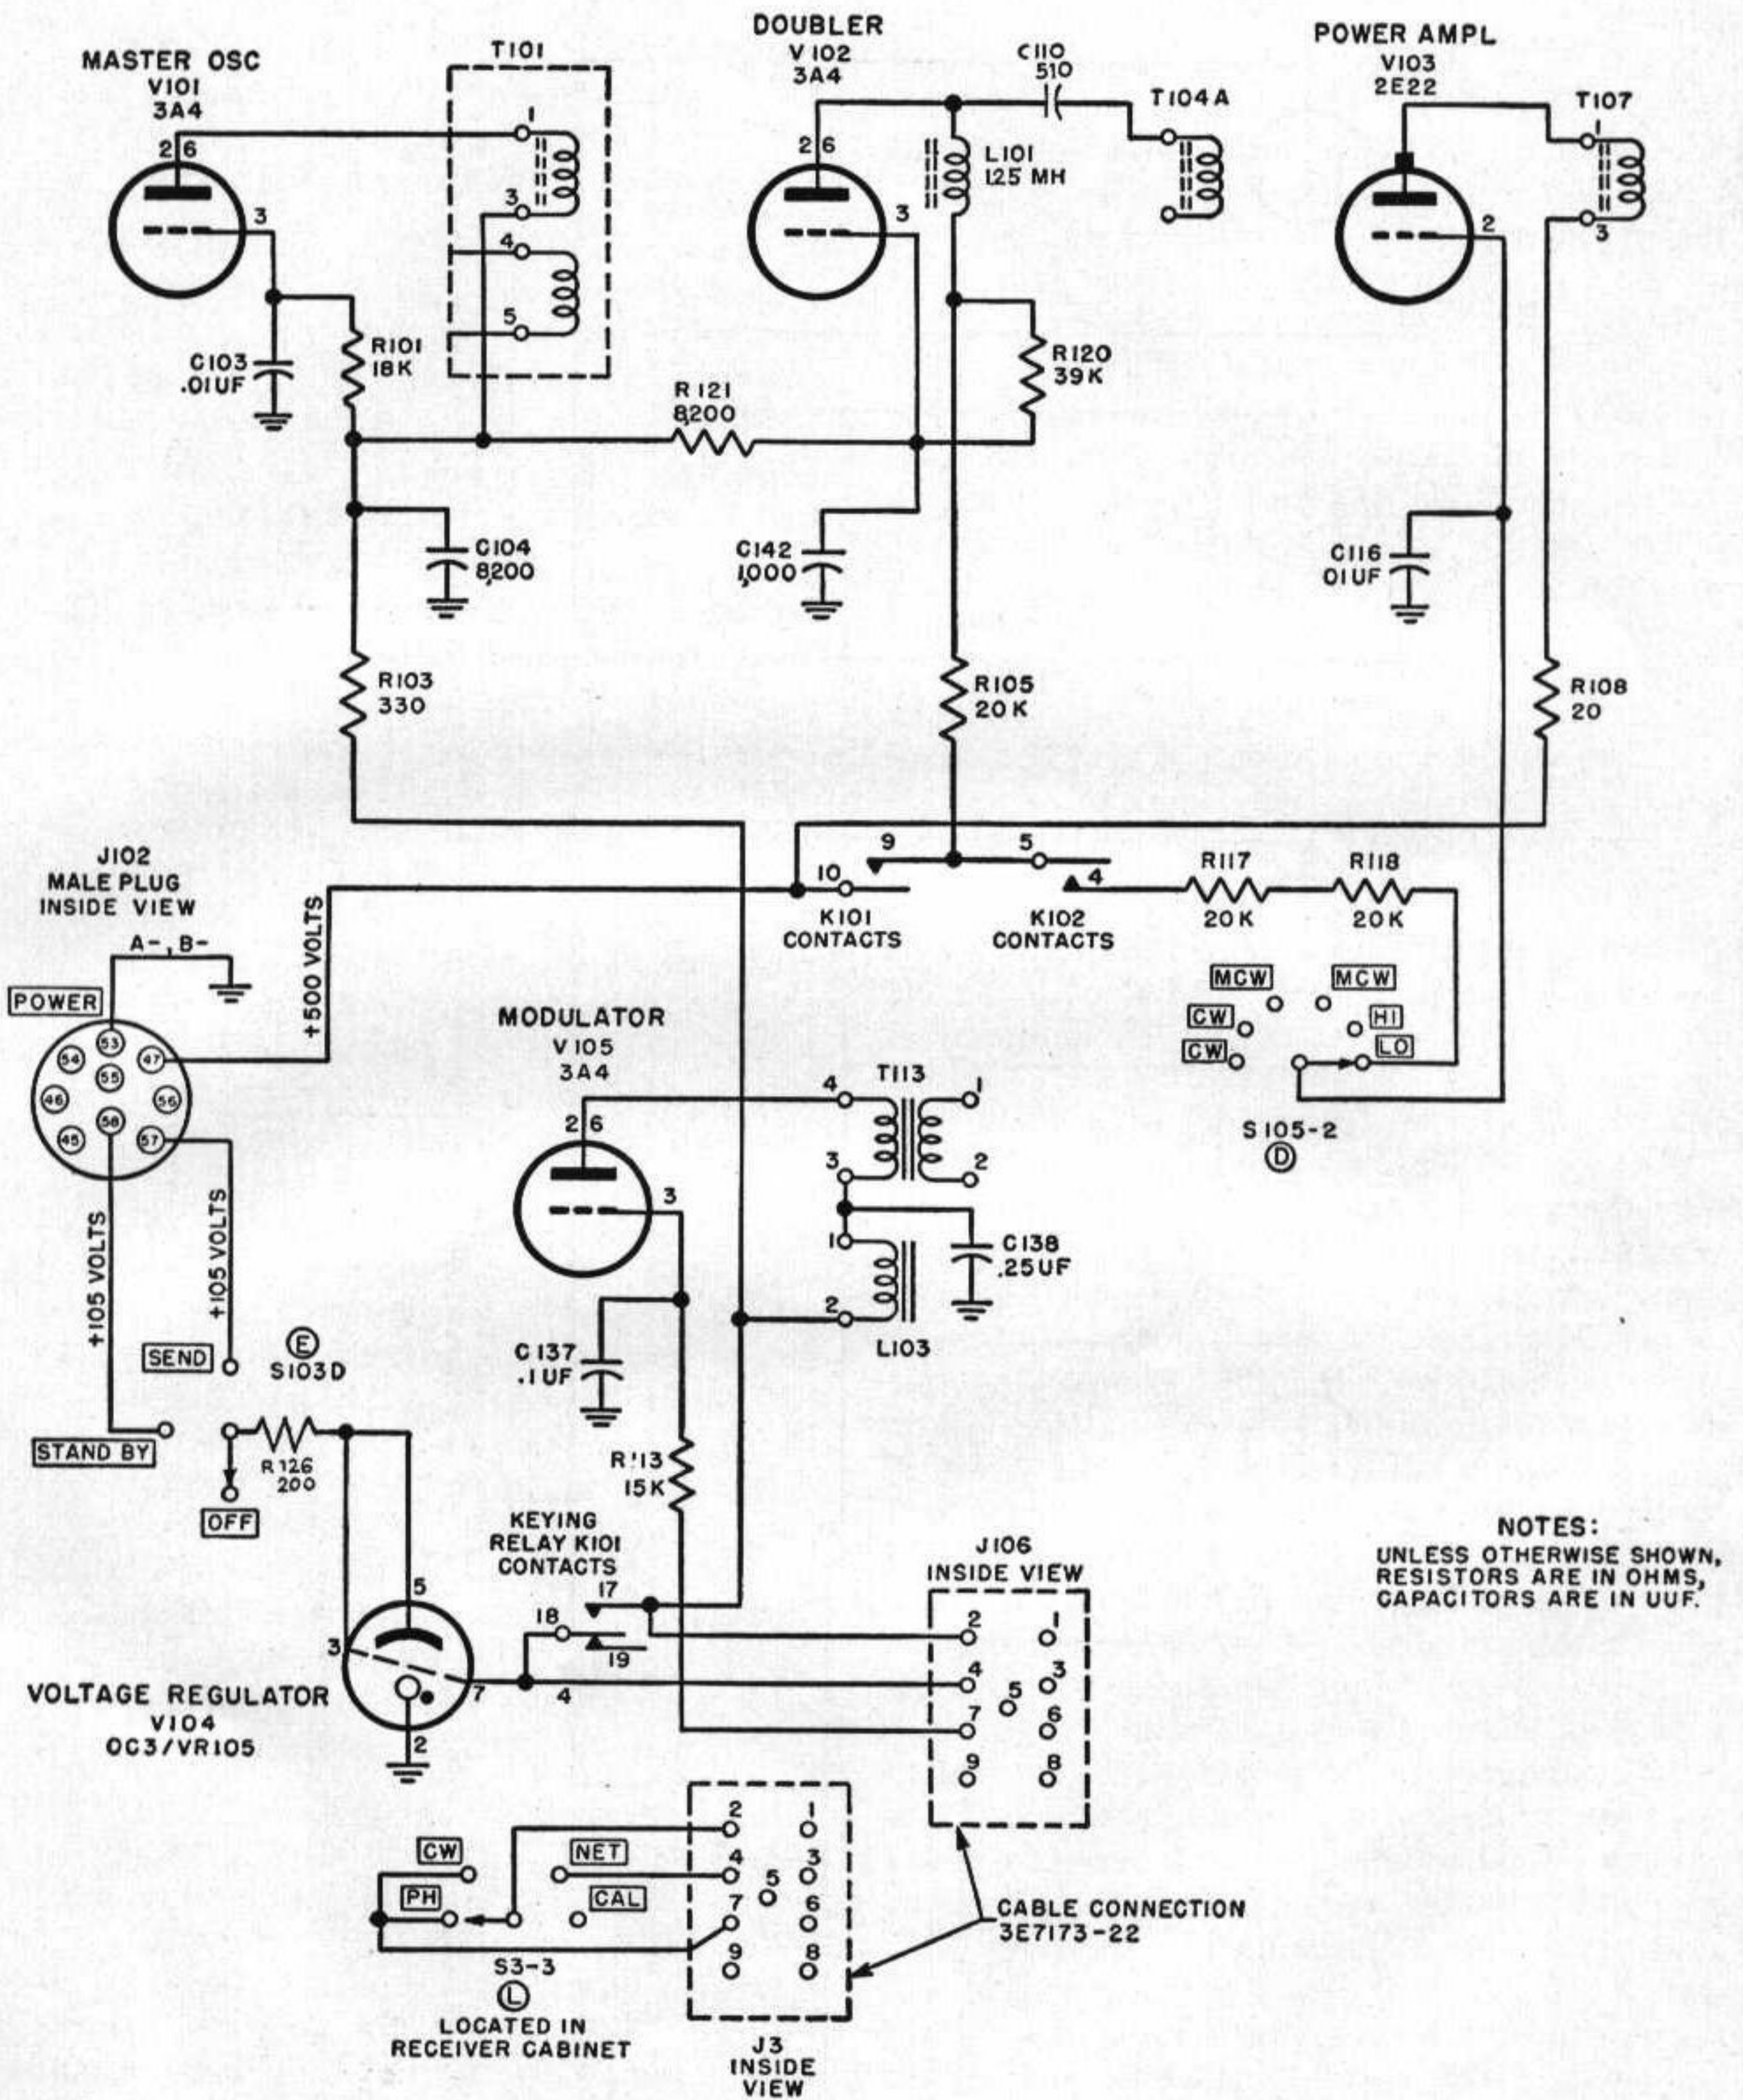

Figure 81. Transmitter plate and screen grid voltage supply circuits.
- (2) The modulator tube receives its plate voltage through the decoupling filter composed of L103 and capacitor C138. This filter is connected to the power supply through contacts 17 and 18 of keying relay K101. Thus, unless the key of the microphone button is depressed, the contacts are open and the modulator does not receive any plate voltage.
- (3) The screen receives its voltage from dropping resistor R113 which connects to terminal 7 on receptacle J106 (see main schematic). Terminal 7 on J106 is connected to terminal 2 on J106 by means of connections through circuits located inside the receiver cabinet (fig. 81). Terminal 2 is connected to B+ through contacts 17 and 18 of keying relay K101. Thus the screen voltage depends, as with the plate, on the position of the keying relay. If the key is up, there is no screen or plate voltage on the modulator tube. Capacitor C137 is the screen bypass capacitor.
99. Transmitter Plate and Screen Supply Circuits (fig. 81)
b. POWER AMPLIFIER PLATE. Terminal 47 supplies 500 volts d-c plate voltage for power amplifier tube V103. The plate of V103 is connected by T107 and R108 to pin 47 of J102 (fig. 81). Thus, the moment the generator is cranked, or the dynamotor-power supply is switched on, the power amplifier plate is energized.
f. DYNAMOTOR-POWER SUPPLY DY-88/GRC-9-GY. In order for the transmitter to receive power from the dynamotor power supply, Cord CD-1086-GY is plugged from J102 on the transmitter to plug J202 on the dynamotor power supply. When the set is used for long periods of listening only, the l-v vibrator portion of the dynamotor power supply is in operation. The l-v power supply requires much less vehicular battery current than does the h-v supply. This portion operates when switch S103D, control E is at STANDBY (fig. 81). When control E is at the SEND position, both the dynamotor and vibrator portions of the power supply operate to supply power to the receiver and transmitter.
105 volts d-c at 45 ma to the plate and screen circuits of V5 and V6 in the receiver (fig. 65) and to the oscillator, doubler, and modulator plates and screens of the transmitter, during send periods (figs. 81 and 82).